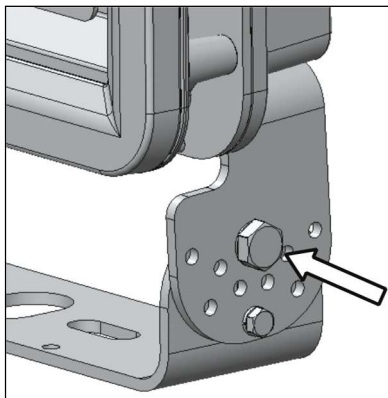

Fig.2
2. Loosen center pivoting M10 hex bolt [**do not remove**] on both sides of light fixture [Fig.2]
6. Tighten the center pivoting M10 hex bolts on both sides [Fig.2] ..... suggested torque = 25 ft.lb [33.9 Nm]
3. Tighten the center pivoting M10 hex bolts on both sides [Fig.2] ..... suggested torque = 25 ft.lb [33.9 Nm]